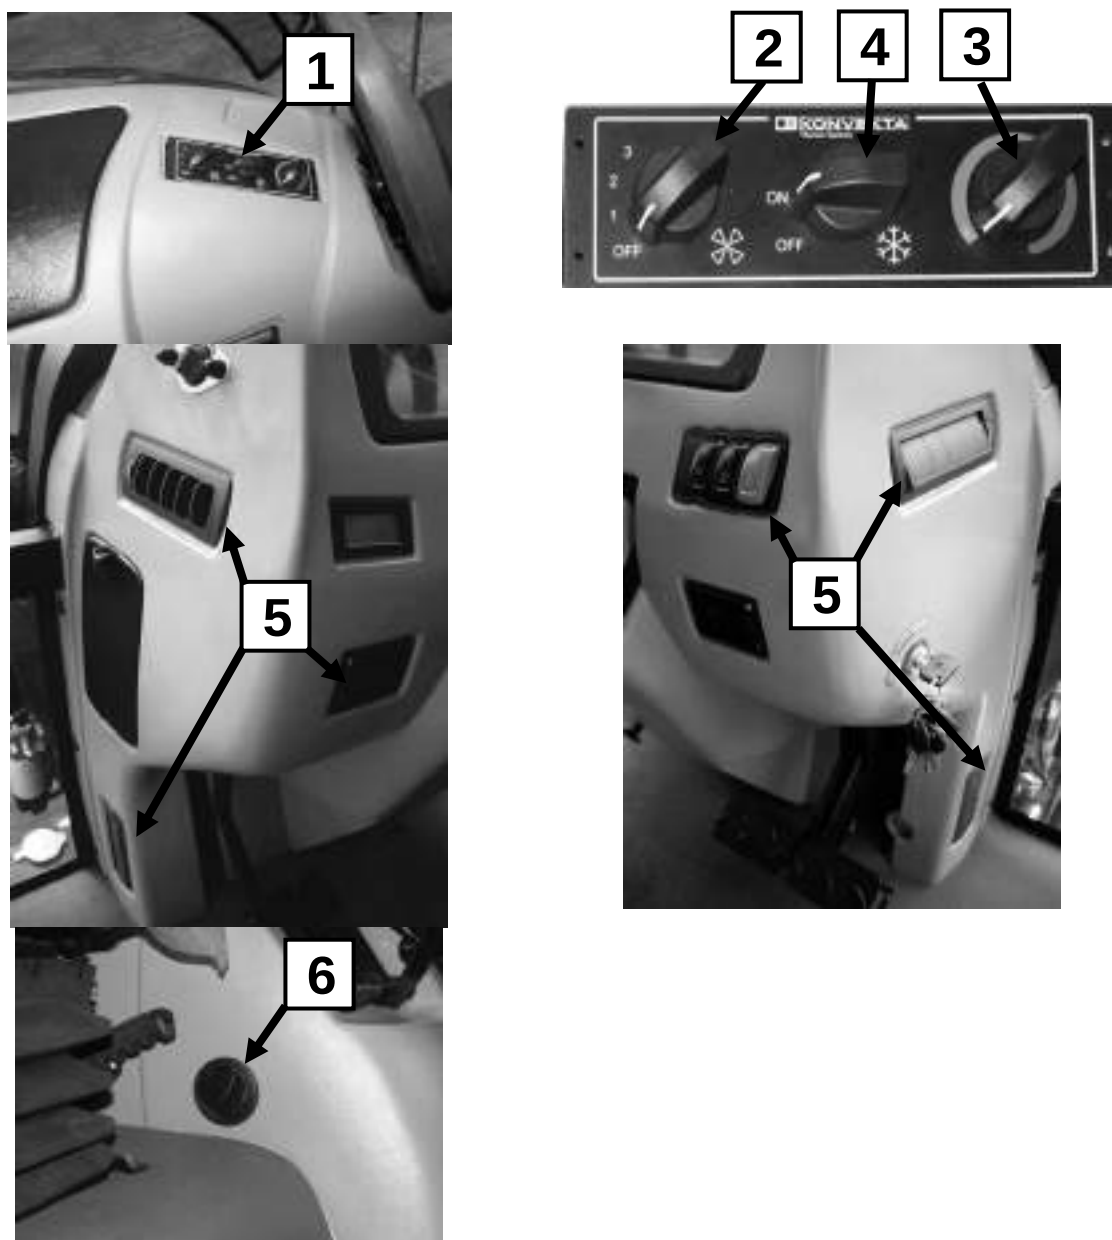

Figure 4-21 Ventilation, heating and cab air conditioning system.
Switching on blower by connecting fan with dial 2 (**Figure 4-21**) placed on control panel 1 on the left side of cab.
Heater dial 3 (**Figure 4-21**) enables smooth temperature regulation of hot air from heater. Turning heater dial to the right or left side lowers or increases temperature of air coming from heater to air outlet.
Switching on blower by connecting fan with dial **2** (**Figure 4-21**) placed on control panel **1** on the left side of cab.
Thermostat dial **3** (**Figure 4-21**) enables smooth regulation of temperature of cooling air. Turning thermostat dial to the right or left reduces or increases temperature of air leaving evaporator. To switch on air conditioner press button **4** (**Figure 4-21**).
- fan dial **2** (**Figure 4-21**) selects required degree of blower operation,
- button **4** (**Figure 4-21**) activates air conditioning
- thermostat dial **3** (**Figure 4-21**) sets required temperature,